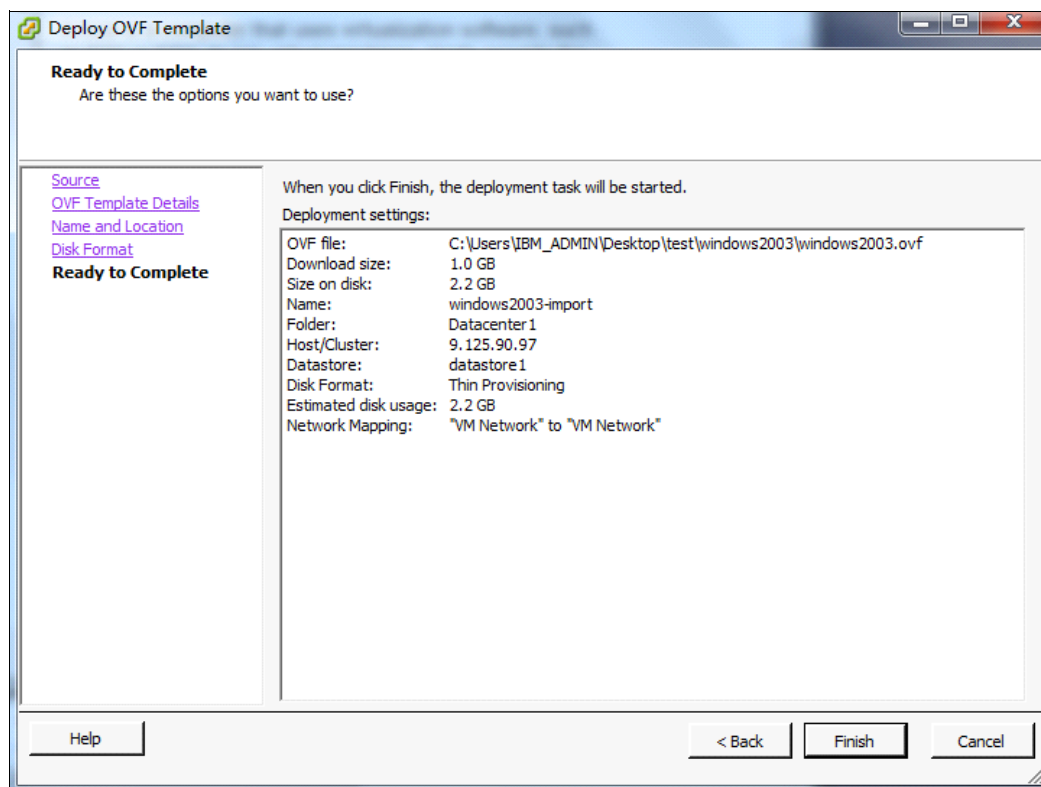

Figure 3-33 Deploy OVF Template: Summary
17. You see the summary of the information that you entered, as shown in Figure 3-33. Click **Finish** to start the deployment process.